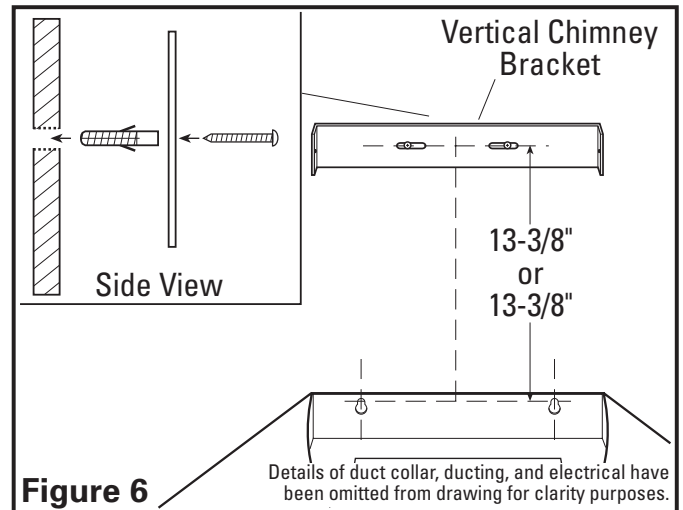

Figure 6
2. Drill holes into wall using a 1/4" drill bit. Install included wall anchors into holes and secure bracket into place with two provided 3.19 x 32 mm screws (**Figure 6**).